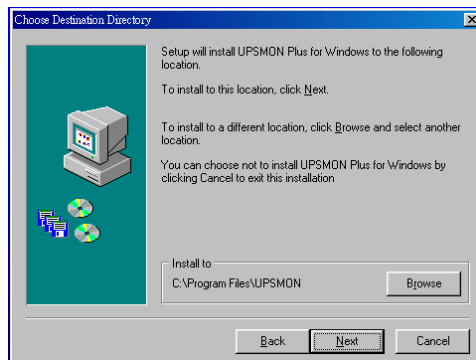

Fig 5.4
- Select a location for installing program. Please read and follow instruction written in the window and click **Next**. (see Fig 5.4)